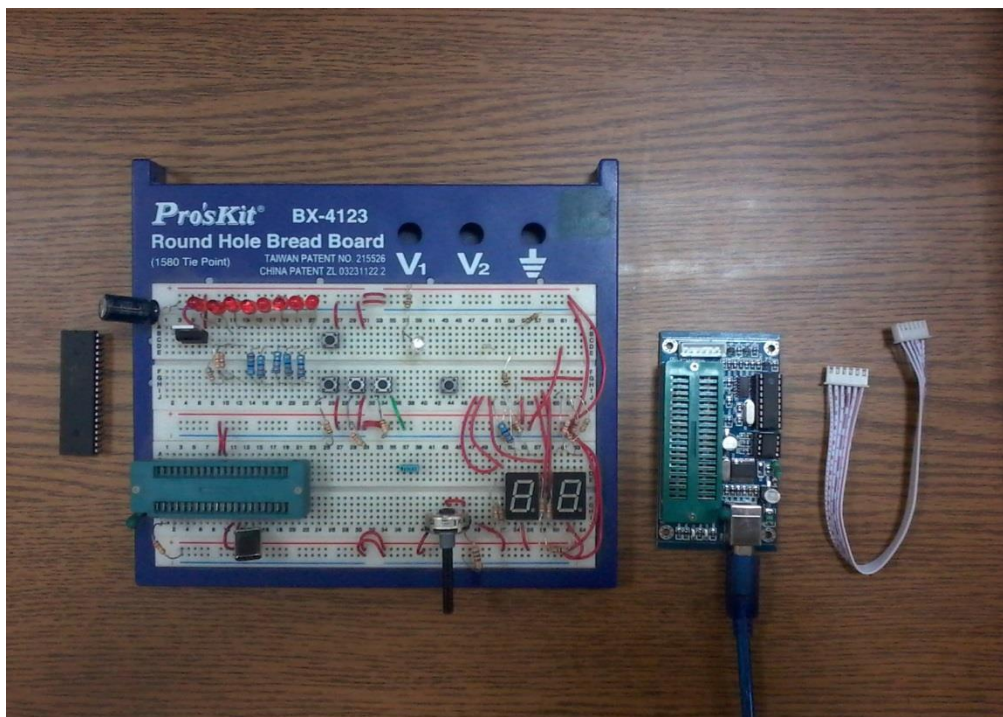

Figure 5.1: Equipment and devices used in the experiment.
3. Breadboard and electronic components as shown in Figure 5.1